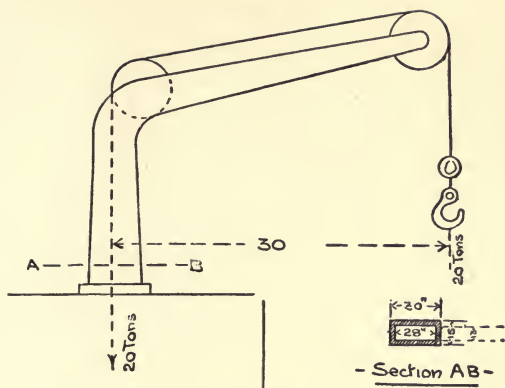

Fig. 3.
5. Fig. 3 represents a cantilever hydraulic crane. The single rope which supports the load is led over two frictionless pulleys and then vertically down the axis of the girder to the hydraulic apparatus. Consider the section  $AB$  and determine the greatest tensile and compression stress across the section.